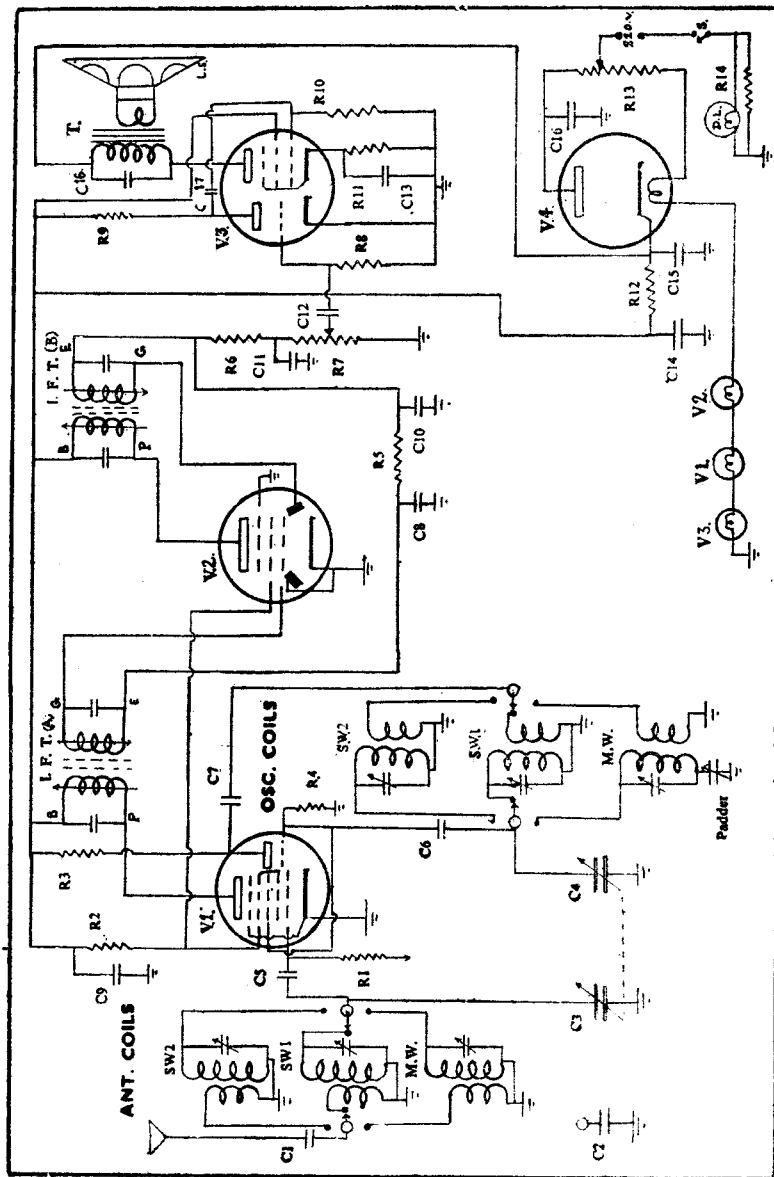

Fig. 48—Circuit Diagram of 4 Valves All World AC/DC Radio
*Radio Practical Circuits***42. Four valves All World Radio (Fig. 48)****Parts List :—**